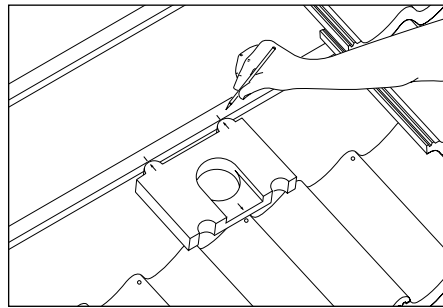

Fig. 1 - Mark position
- 1 Locate vent tile clear of rafters and place special polystyrene end spacer marked 'Template' flat onto underlay at desired position (Fig. 1).